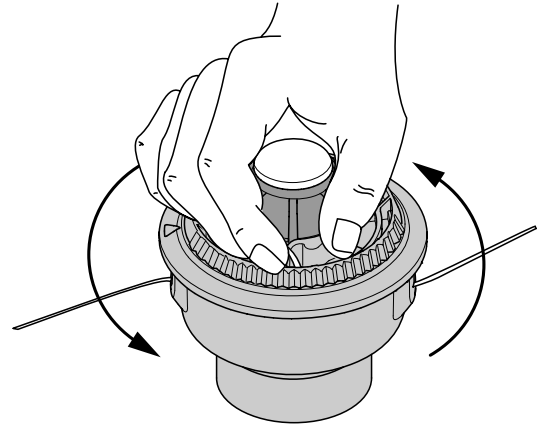

Fig. 44
8. Hold the outer spool. Wind the inner reel counterclockwise until approximately four (4) inches (102 mm) of line remain (Fig. 44).